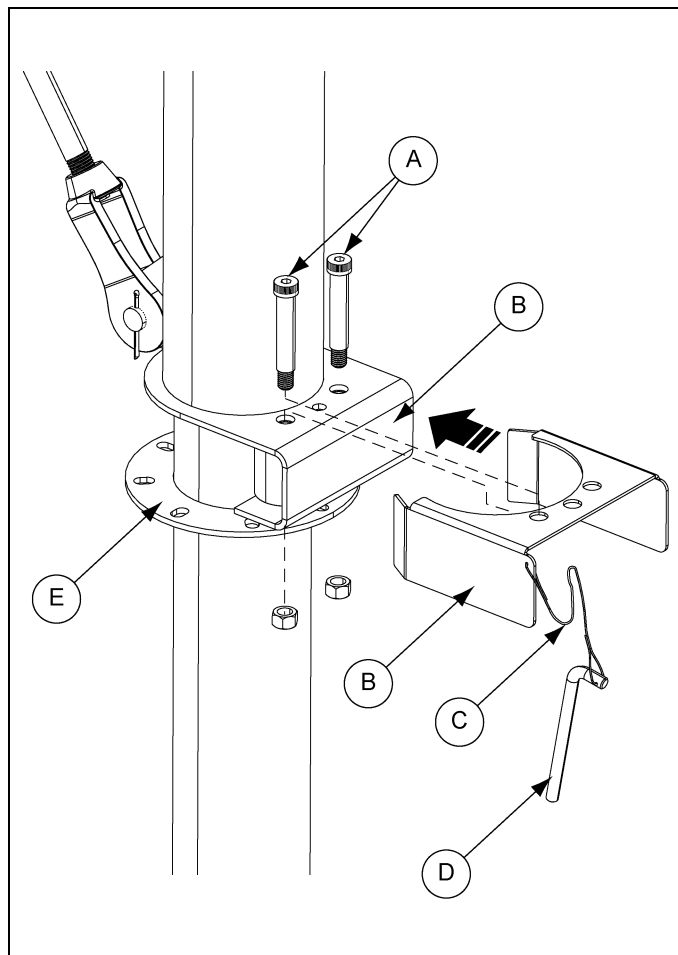
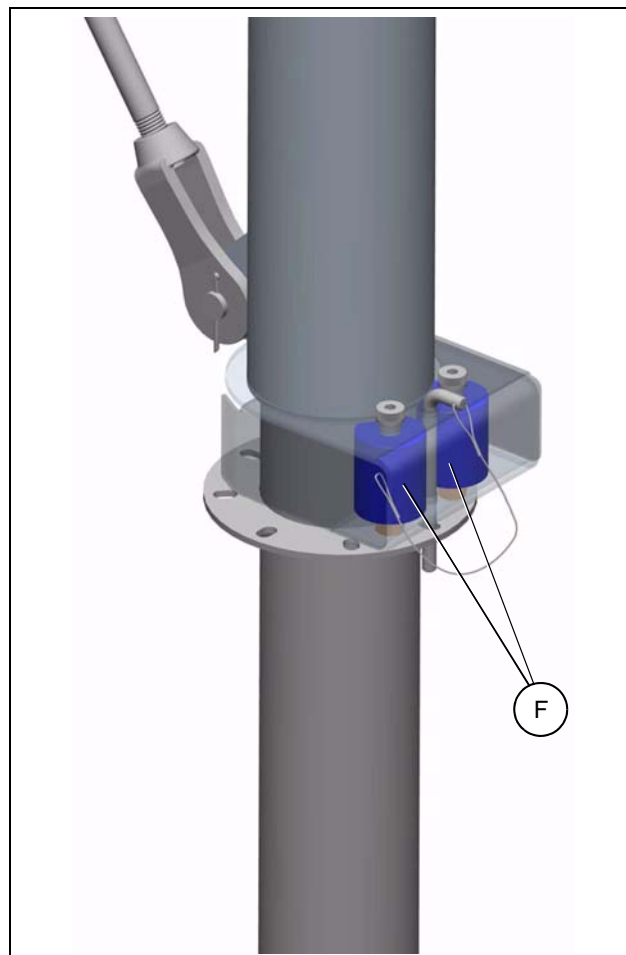

Figure 3F
Figure 3G
Attach rollers (F) and roller guard (B) to the turret using the shoulder bolts (A) and 5/8" nuts as shown. Slide the pin tether cable (C) through the holes in the roller guard (B) and pin (D). Fasten in place with provided cable clamp. Insert the 90° pin constraint through the turret and the constraint plate (E) to lock turret in place as shown in Figure 3F and Figure 3G.